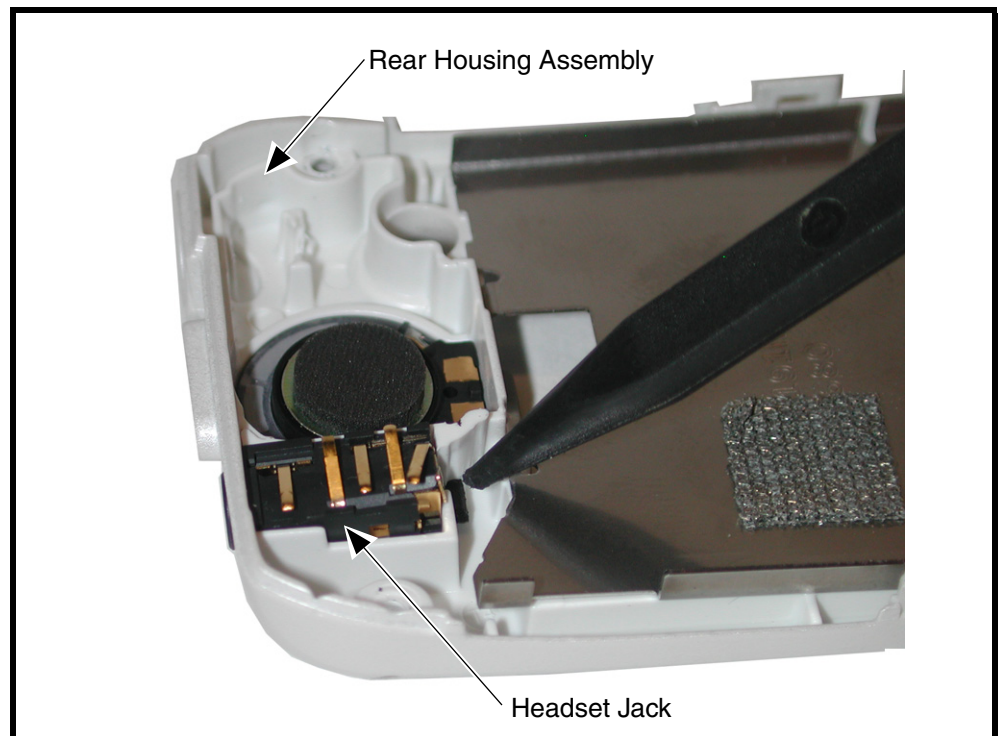

Figure 11. Removing the Headphone Speaker Jack
2. Using the disassembly tool, gently pry up on the headphone speaker jack to remove it from the rear housing as shown in Figure 11. Be careful not to damage the leads.